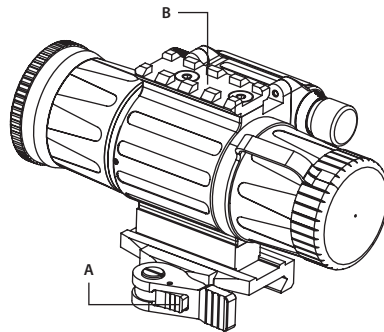

FIGURE 2-1. CO-MINI NIGHT VISION CLIP-ON DEVICE AS DELIVERED
The CO-MINI consists of two primary parts: the night vision device (hereafter referred to as “NVD”), and the quick-release mount, or mount. The CO-MINI is delivered as shown in Figure 2-1: the mount (A) and Weaver rail (B) should be secured on the NVD seating rails with M4×8 screws.